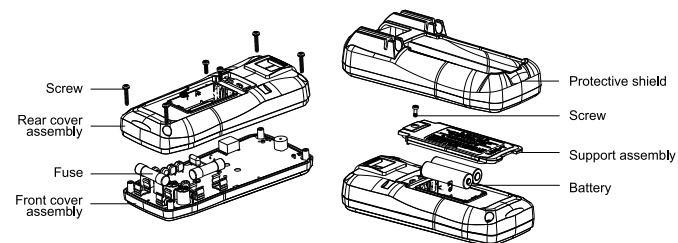

Figure 10
2. Replace battery or fuse (Figure 10)